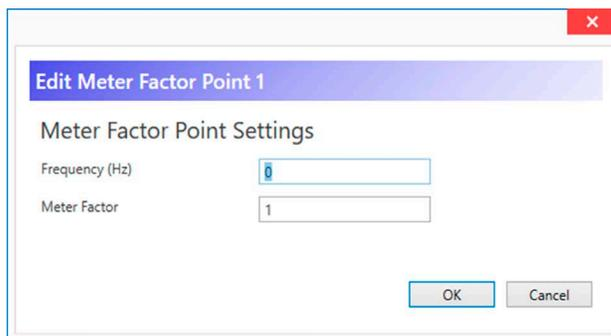

Figure 7.12—Edit Meter Factor Point dialog
- Edit Point. Presents a dialog for changing the selected Meter Factor point (Figure 7.12).